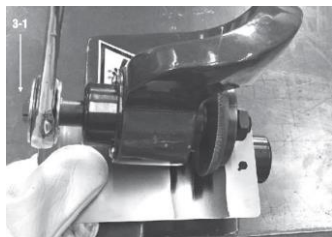

Fig. 3
3. Apply moderate pressure to push the workpiece into the cutting dies as you pull the handle towards yourself (Fig. 3).